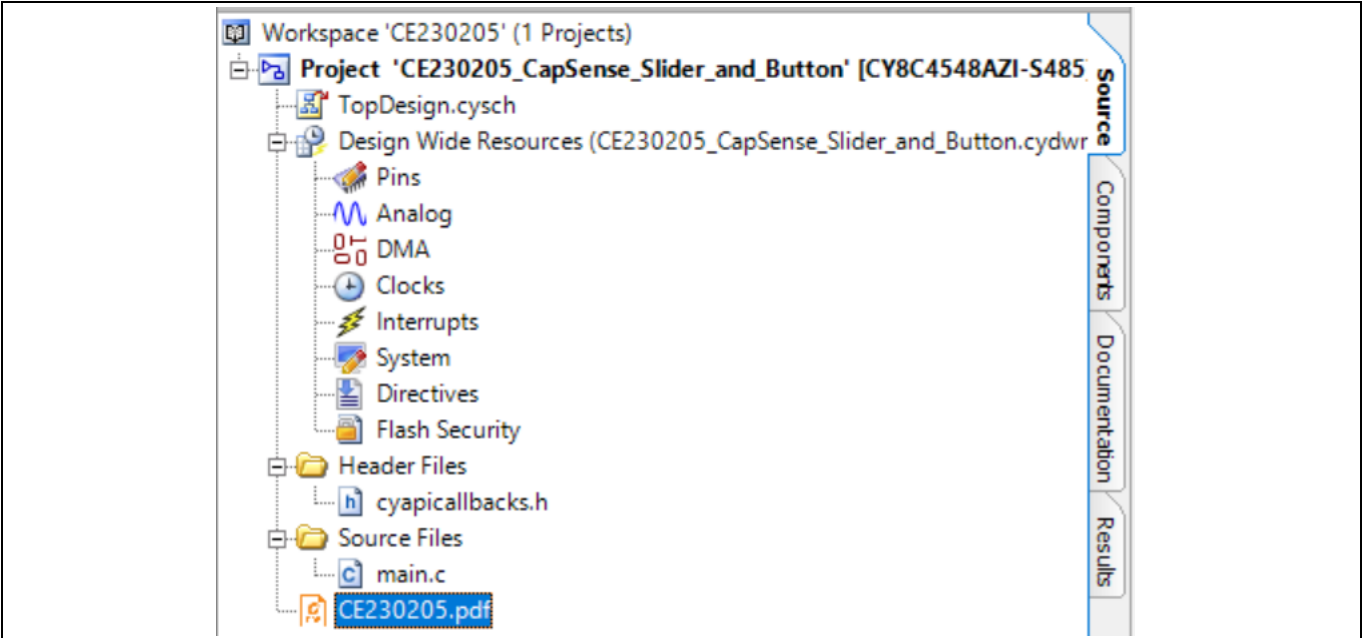

Figure 22 Project Datasheet: CE230205_CapSense_Slider_and_Button
5. Open **CE230205.pdf** from the Workspace Explorer to learn more about the code example and its configuration. See **Figure 22**.